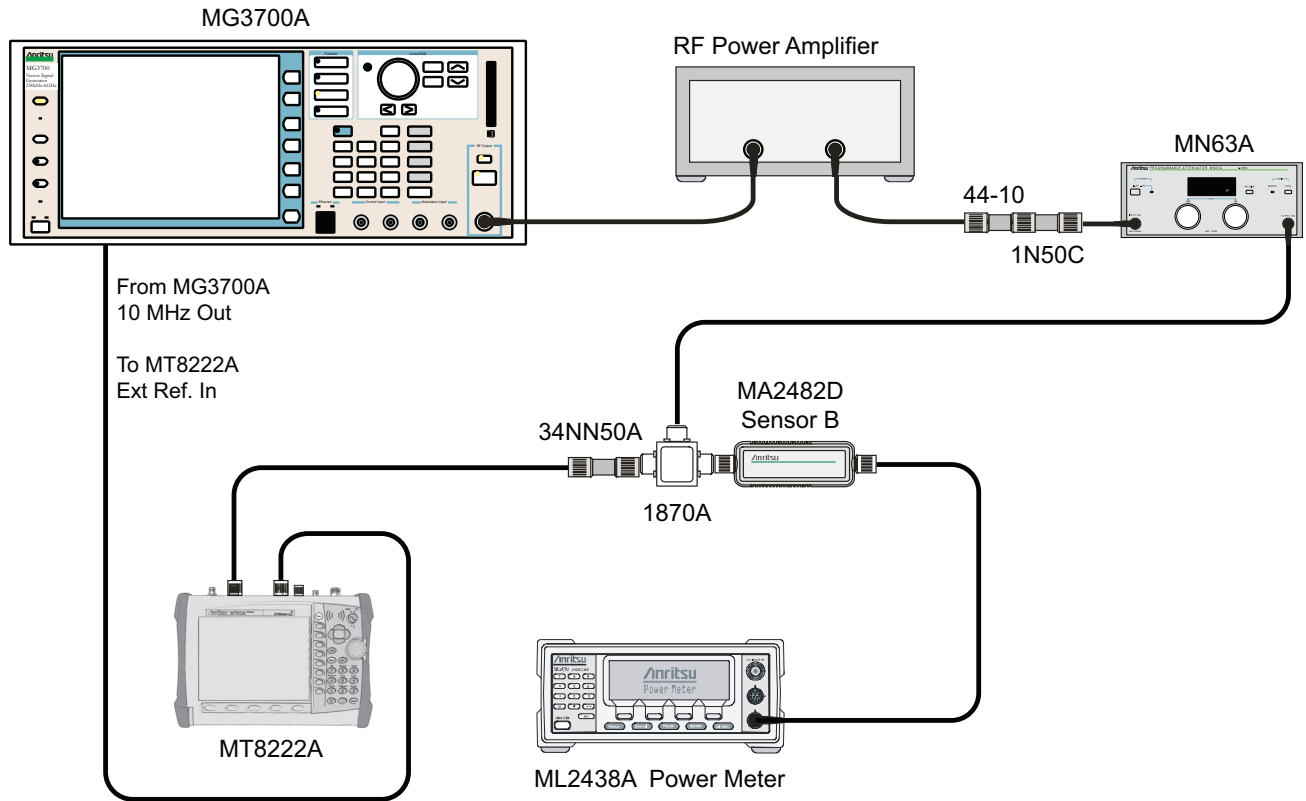

Figure 5-11. DVB-T/H Option 64, Level Accuracy Verification – Sensor B Only
26. Remove Sensor A from the Power Splitter and then connect the Power Splitter to the MT8222A Spectrum Analyzer RF In with an N(m) to N(m) Adapter as shown in Figure 5-11, “DVB-T/H Option 64, Level Accuracy Verification – Sensor B Only”.